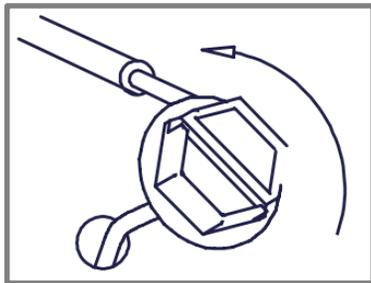

Figure 8.5.
- c. Loosen the ground screw, then grounding conductor (if insulated) to be stripped min. 1", insert end of wire into small hole next to the ground screw hole in access plate and wrap counterclockwise as shown in Figure 8.5.